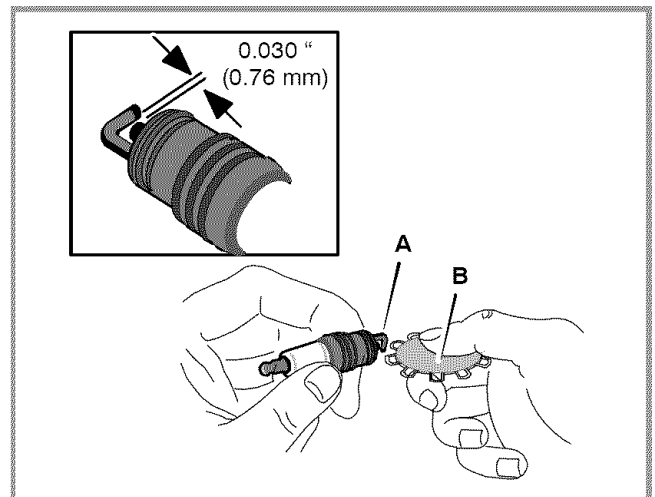

Figure 19: Check Spark Plug
Check the spark plug every 100 hours. Replace the spark plug if, upon inspection, the electrode (A) is burned or worn. Make sure that the spark plug is clean. Check the gap with a wire gauge (B). If necessary, reset to 0.030" (0.76 mm). See (Figure 19).